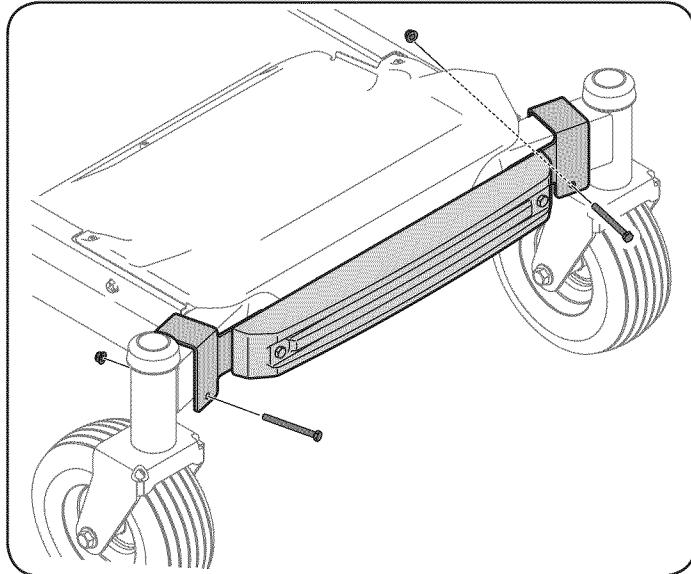

Figure 27
2. Attach the weight bar assembly to the front axle with a 3 $\frac{1}{4}$ " (710-3056) screw and (712-04063) flange nut from hardware pack 689-00325 on the left side. Repeat on the right side. Do not fully tighten at this time. See Figure 27.